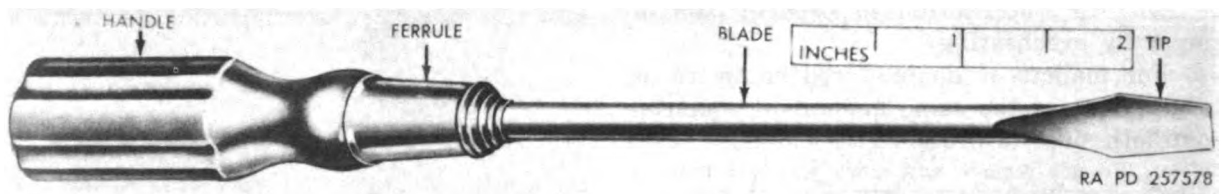

Figure 108. Standard screwdriver.
96. Purpose of Screwdrivers (figs. 108–112)
Screwdrivers are made in various shapes and lengths to perform specific jobs. The size of a screwdriver (fig. 108) is indicated by the
l. Snap Fastener Screwdriver. A snap fastener screwdriver (not illustrated) is similar to the standard screwdriver shown in figure 108. They are made by snap fastener manufacturers to fit their products only.